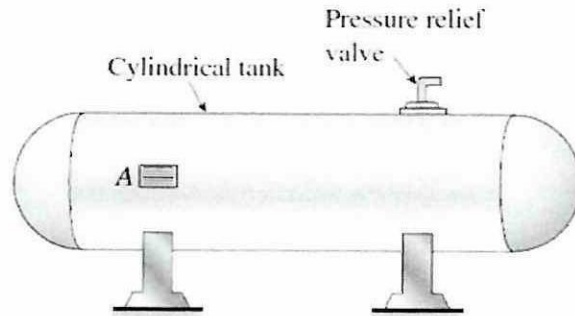

Figure Q5(a)
- Q5** (a) A circular cylindrical steel tank contains a volatile fuel under pressure as shown in **Figure Q5(a)**. A strain gage at point *A* records the longitudinal strain in the tank and transmits this information to a control room. The ultimate shear stress in the wall of the tank is 84 MPa, and a factor of safety of 2.5 is required. Determine the value of the strain should the operators take action to reduce the pressure in the tank?